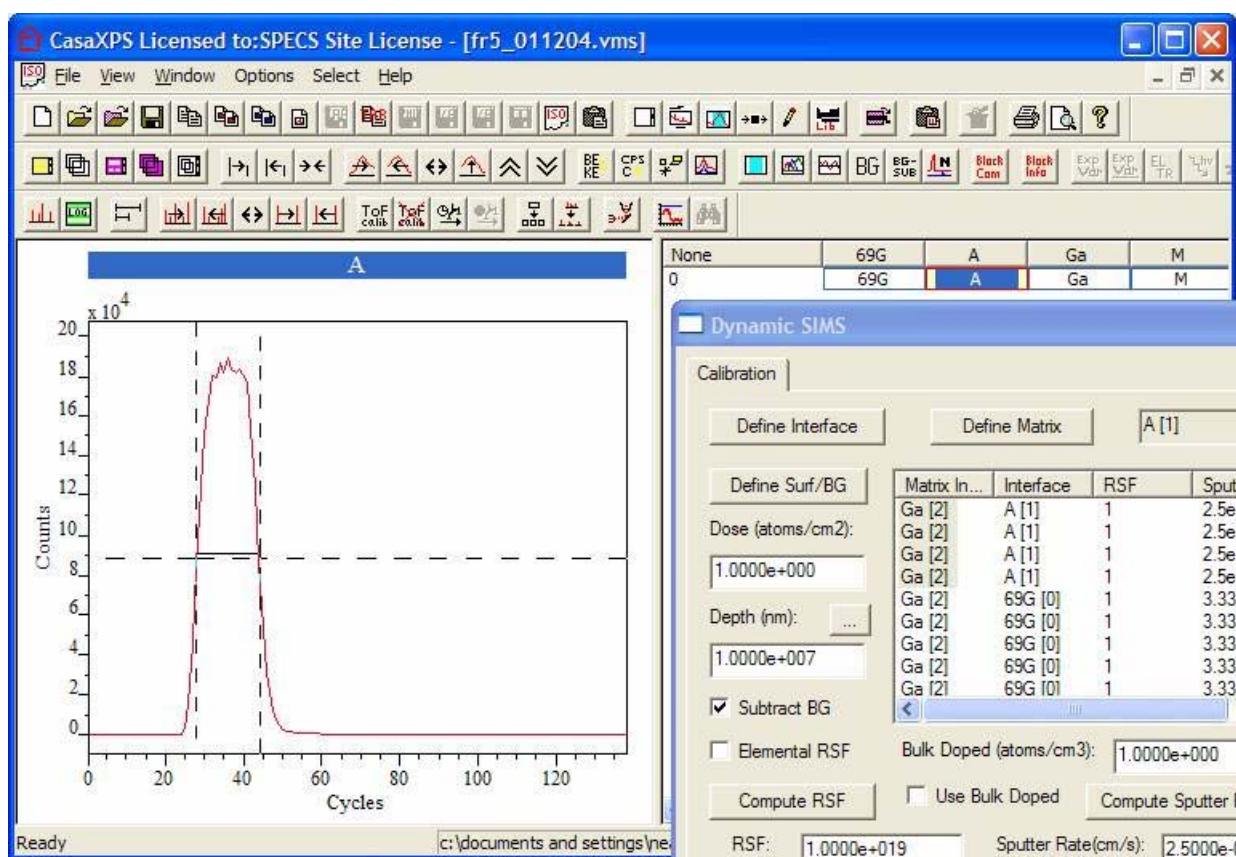

Figure 3
3. Press the Define Matrix or Define Interface button (Figure 2 and Figure 3) depending on whether the matrix or a layer is being assigned. Only those cycles selected in the table will be assigned to each element within the experiment.
Selecting rows within the Matrix Index table is achieved using the table together with the Shift and Control Keys. Alternatively, the selection can be defined using the active tile and the mouse. When the Shift Key is held down and the left mouse button is used to drag over the display, the set of cycles corresponding to those lying between the vertical cursors (Figure 3) will be selected in the Matrix Index table. This aids the identification of layered structures viewed via the matrix signal trace. Once a set of layers are so indicated, the assignment is made by pressing the Define Matrix or Define Interface button.
The material is GaN : AlGaN : GaN in structure (Dr Shadi Shahedipour, University of Albany, New York) therefore step 2 requires the definition of the interfaces. The AlGaN layer is characterized by the trace labeled A in Figure 3. To define a layer within a profile, the signal shown in Figure 3 is used to select the set of cycles recorded between the two interfaces. Before using the mouse to indicate the interfaces, ensure there are no selected cycles in the table on the Dynamic SIMS dialog window. Clicking on any column away from the Matrix Index column will de-select all cycles. Repeated use of the mouse will add to the current selection, allowing complex multilayer materials to be specified.
Mark the AlGaN layer by holding the Shift-Key down and then dragging a box from the left to the right of the AlGaN peak. The result of such an action is shown in Figure 3. All the cycles within the table on the Dynamic SIMS dialog window between the vertical cursors shown on Figure 3 are selected by the mouse action and so pressing the **Define Interface** button on the same property page will cause the Interface column in the table to be updated.